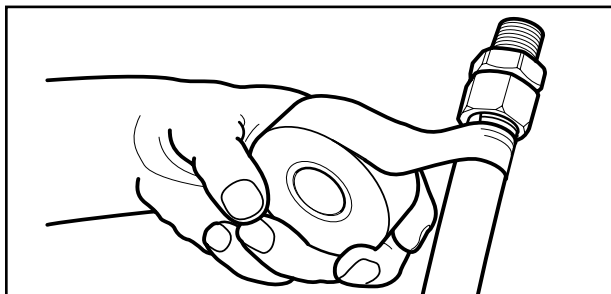

Figure: 4-5 Wrapping with self bonding silicone tape - begin on jacket.
1. When installed outdoors, the plastic jacketing shall remain intact as much as practical for the given installation. Any portions of exposed stainless steel shall be wrapped with self bonding silicone tape sealing the fitting connection to prevent later corrosive attack by acid wash or chloride based compounds. (See Figures: 4-5 and 4-6).
- When **TracPipe**® is installed in a swimming pool mechanical room or exposed to a corrosive environment which may be harmful to the tubing, all exposed portions of the stainless steel tubing shall be wrapped with self-bonding tape. (See Figures: 4-5 and 4-6).